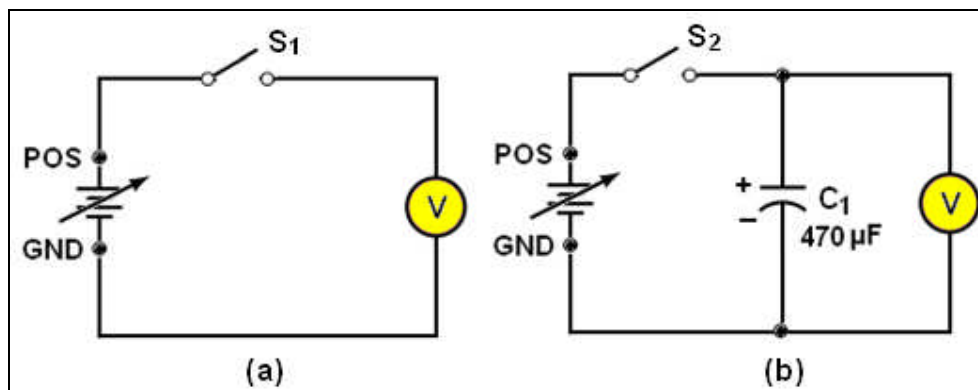

Fig. 3-2 Capacitor Converts Pulsating DC to Direct Current
4. Construct the circuit shown in Fig. 3-2(a). Close S_1 and adjust the positive voltage until the meter reads exactly 10 volts.
6. Add the $470\ \mu\text{F}$ capacitor (C_1) across the meter, as shown in Fig. 3-2(b).